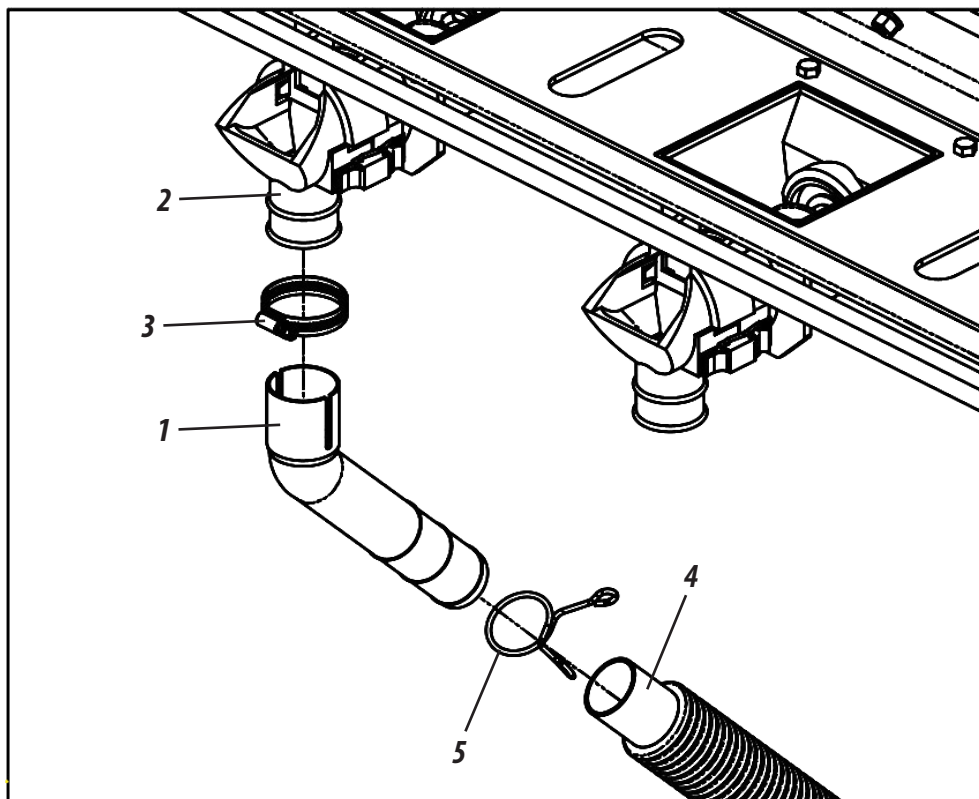

Figure 38
FERTILIZER CONDUCTOR FERTISYTEM SYSTEM (FIGURES 38/39)
Then place the hoses (4) on the spouts in degree (1) through the clips (5), as shown in figure 38.